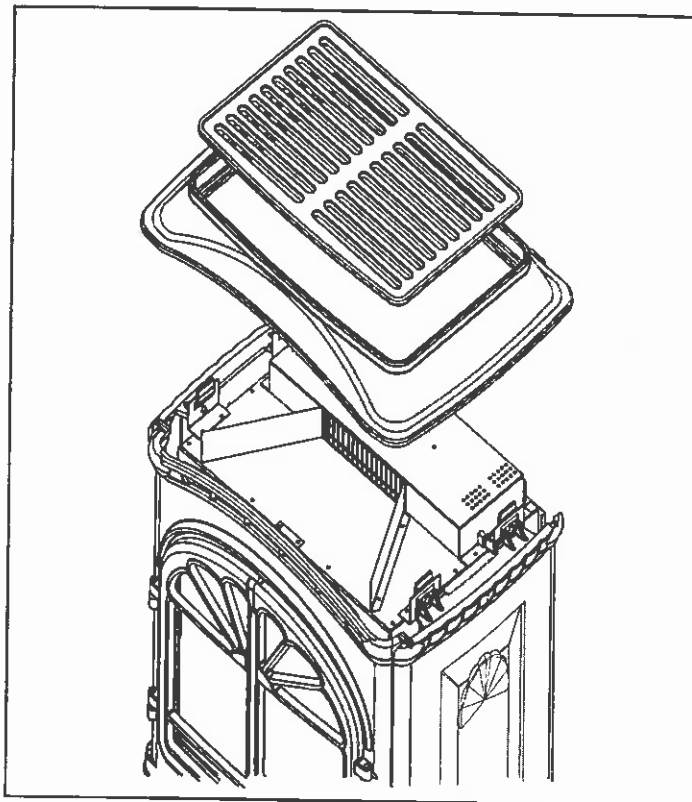

Figure 7 - Remove the Heater System
- d. Remove the heater system. See Figure 7. Rest it on top of the appliance so it does not fall.